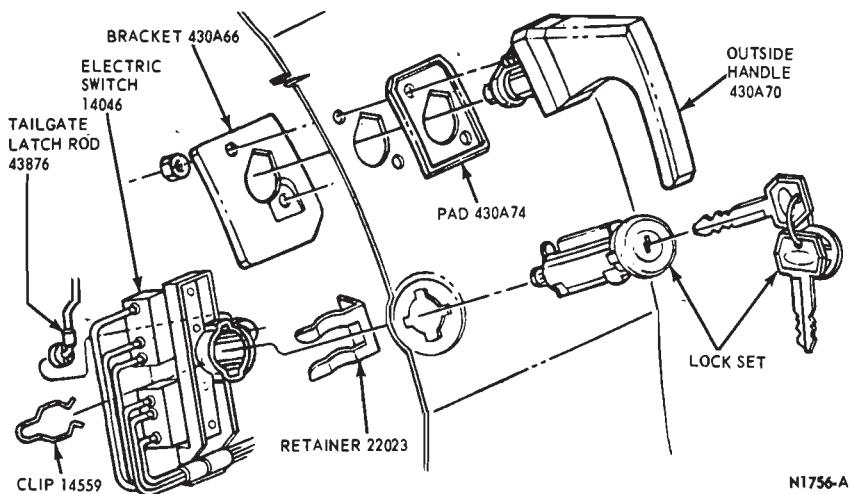

FIG. 7—Tailgate Window Switch—Ford, Mercury and Meteor
2. Disconnect the tailgate latch rod from the electric switch (Fig. 7).
4. Remove the lock set retainer (Fig. 7).
2. Position the switch to the lock cylinder and install the retainer and clip (Fig. 7).